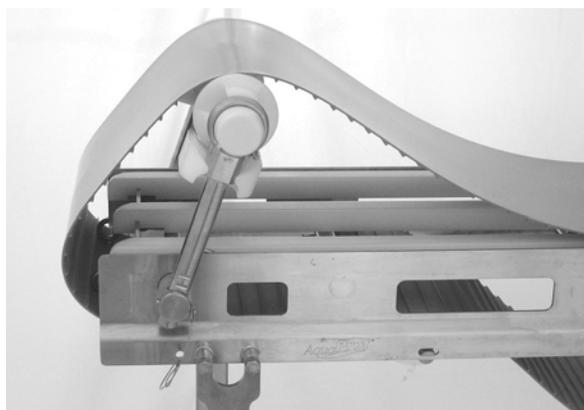

**Figure 45**
2. Remove the guides (**Figure 45, item 1**).